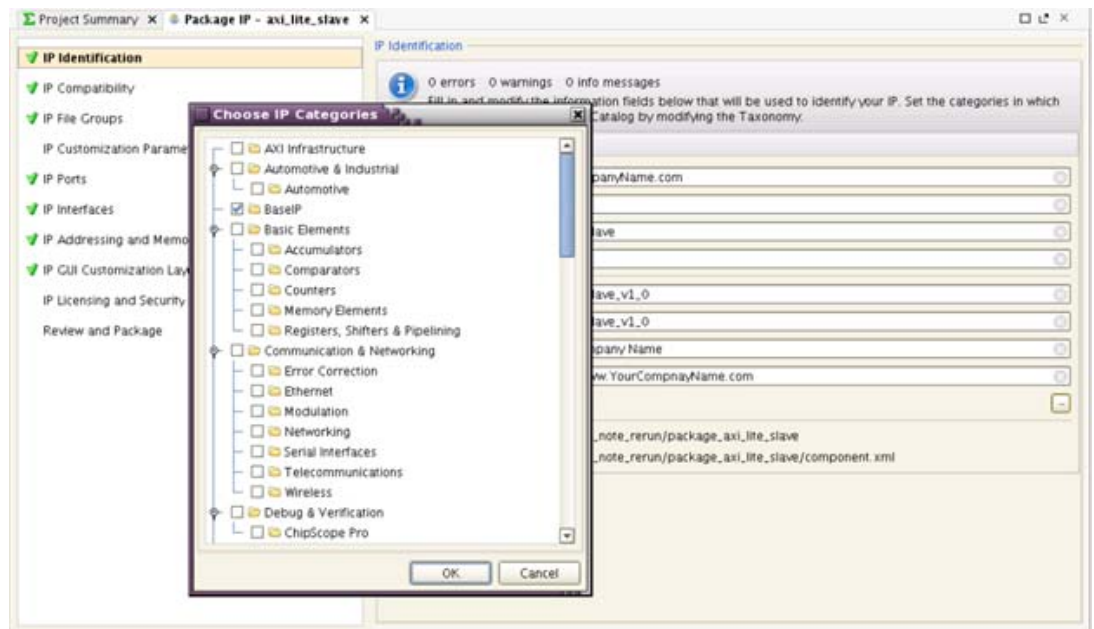

Figure 11: Choose IP Categories Window
7. For the IP to appear in the IP catalog in particular categories, the IP must be configured to be part of those categories. To change which categories the IP will appear in the IP catalog click the ... box on the Categories line. This produces the Choose IP Categories window (Figure 11).